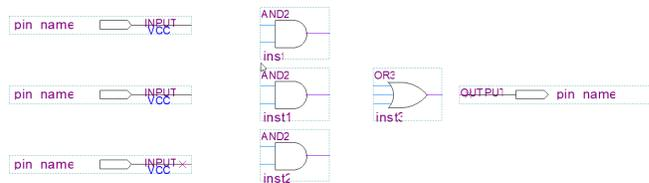

Figure 15. All gates entered.
10. Place the three (3) unit **input** pins.
11. Repeat step 9 and 10 for an **output** pin. By now we should have our design entry such shown in Figure 15.